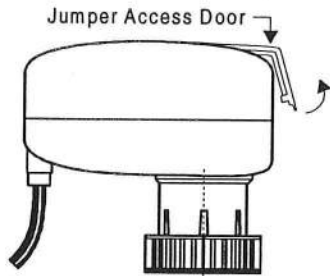

Figure 8: Opening the Jumper Access Door
1. Open the jumper access door, using a fingernail or the tip of a small flat-blade screwdriver, by carefully lifting up on the door. (See Figure 8.)